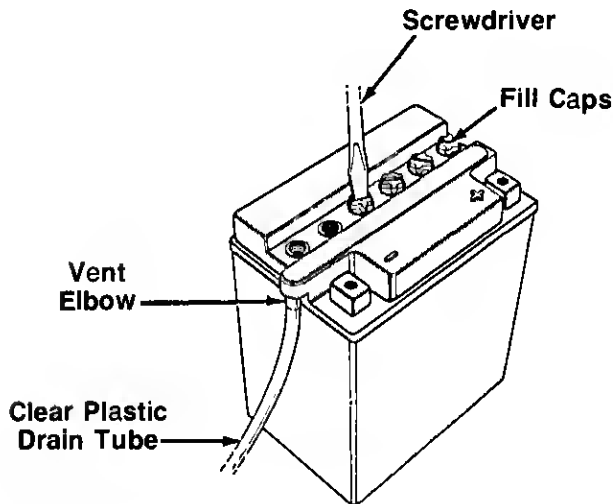

FIGURE 11.
3. Remove the six fill caps from the top of the battery with a screwdriver. Be careful not to damage the fill caps. See figure 11.